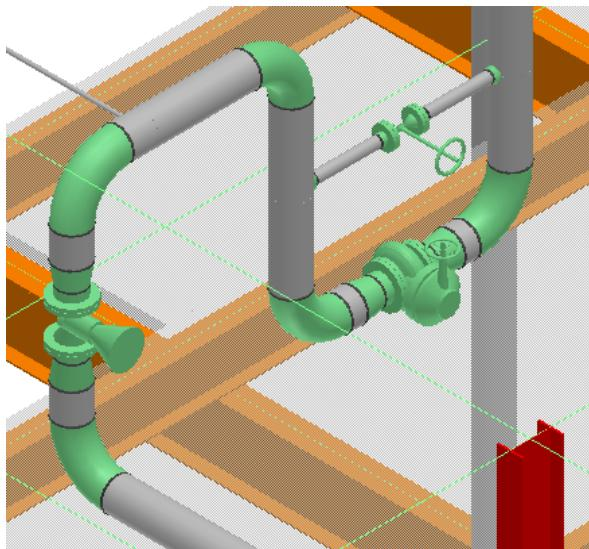

Figure 73: FV-311 Custom Instrument
4. In the graphic view, select the **FV-311** custom instrument located in the pipeline **300-W**, as shown in Figure 73.